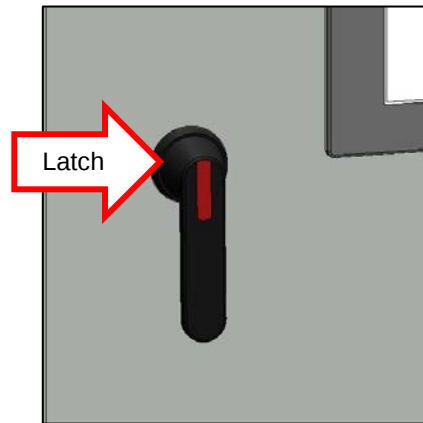

FIGURE 1.19-1: MAIN DISCONNECT LATCH
- 3) Open the power panel with the cabinet key and press the release latch on the base of the disconnect switch indicated in Figure 1.19-1. Use a pencil or piece of wire to press the recessed button.